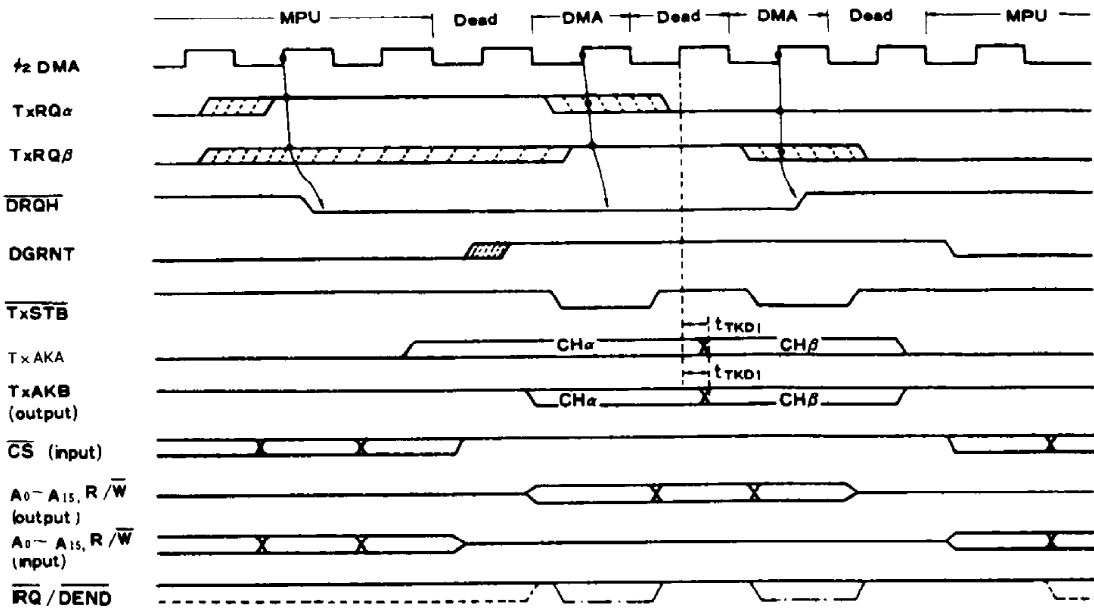

Figure 23 Channel Change (HALT Mode \rightarrow HALT Mode)
- (1) From HALT mode to HALT mode (Fig. 23)